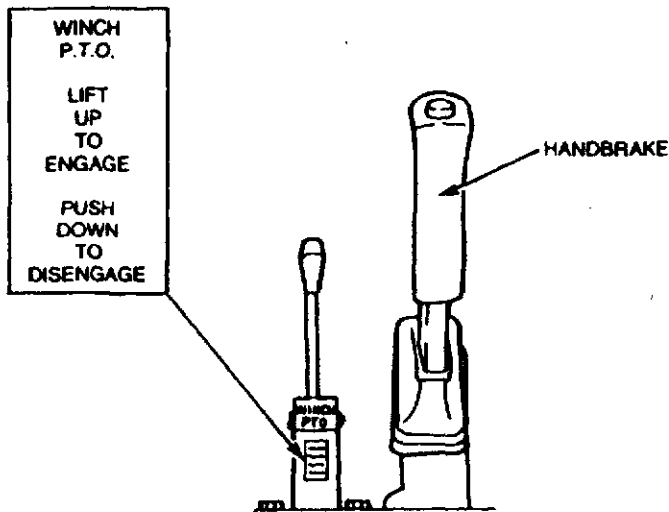

Figure 2-8 Winch/PTO Control Operation
- c. Depress the clutch pedal and select reverse gear, then pull up the winch/PTO control in the seat base (see Fig. 2-8) to engage the winch drive. Increase engine speed to approximately 1300 rpm then slowly release the clutch pedal to begin winching out the rope.
- c. Depress the clutch pedal and select a low forward gear, then pull up the winch/PTO control in the seat base (see Fig. 2-8) to engage the winch drive. Increase engine speed to approximately 1300 rpm then slowly release the clutch pedal to begin winching in the rope.